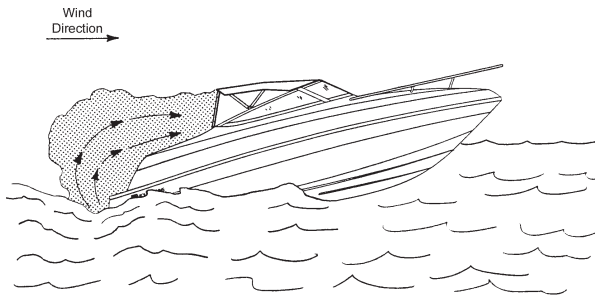

Figure B12: Operating at Slow Speed with Following Wind
5. Operating a boat at slow speeds with a following wind should be avoided. Consider changing direction, adjusting speed, or both. See Figure B12.